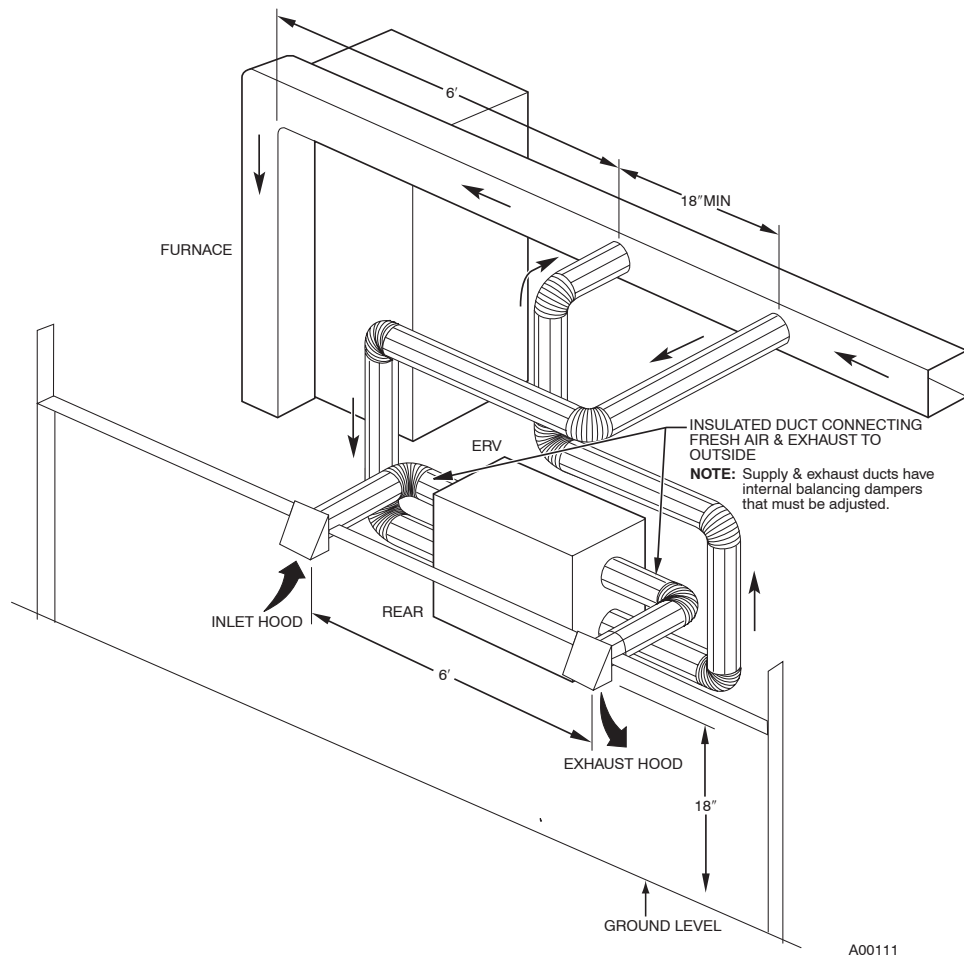

Fig. 5 - Exhaust Ventilation
Most ERV applications will be installed in conjunction with new or existing forced-air systems. To operate properly, the fresh-air supply and stale-air return from ERV connect directly to return-air duct system. This is how the ERV distributes fresh air and removes stale air from inside of building (see Fig. 5). For these installations, furnace or fan coil blower must be interlocked and operate continuously whenever ERV is energized.
**NOTE:** The fresh air from ERV is introduced into return-air duct at a point no less than 6 ft upstream of furnace or fan coil. This connection should be direct (see Fig. 5). This is to allow incoming fresh-air to mix before entering indoor equipment.
Fresh-air intake and stale-air exhaust must be separated by at least 6 ft. Fresh-air intake must be positioned at least 10 ft from nearest dryer vent, furnace exhaust, driveway, gas meter, or oil fill pipe. Fresh-air intake must be positioned as far as possible from garbage containers and potential chemical fumes. When possible, it is advised to locate the intake and exhaust hoods on same side of house or building. The intake and exhaust hoods should never be located on interior corners or in dead air pockets (see Fig. 5). Both intake and